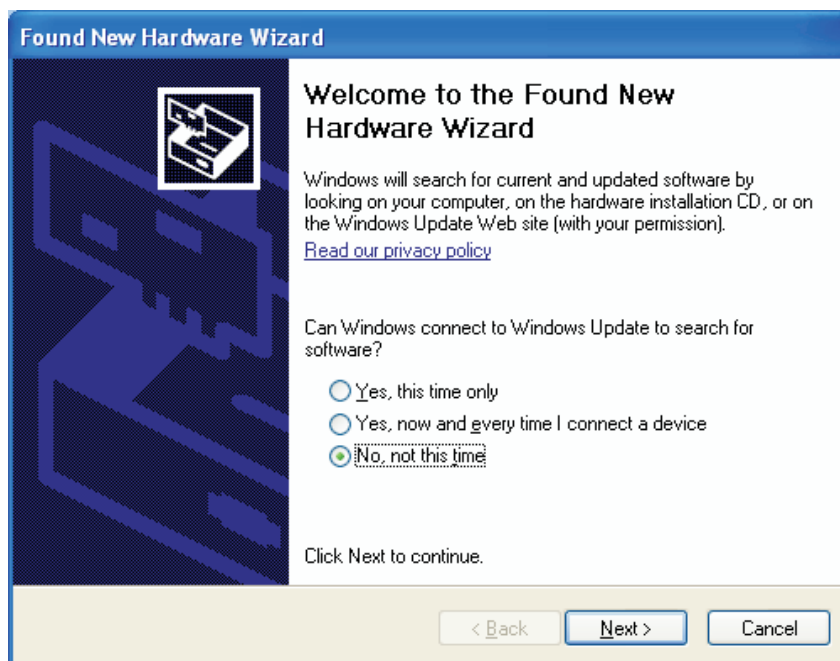

Figure 11. Found New Hardware Wizard
1. Once the PC has restarted, plug in the DAC5682z or TSW3082 EVM. This starts the driver installation process. The Found New Hardware Wizard (Figure 11) detects the DAC5682. When asked if Windows should connect to the Windows Update server to locate drivers, select the *No, not this time* option and click the *Next* button.